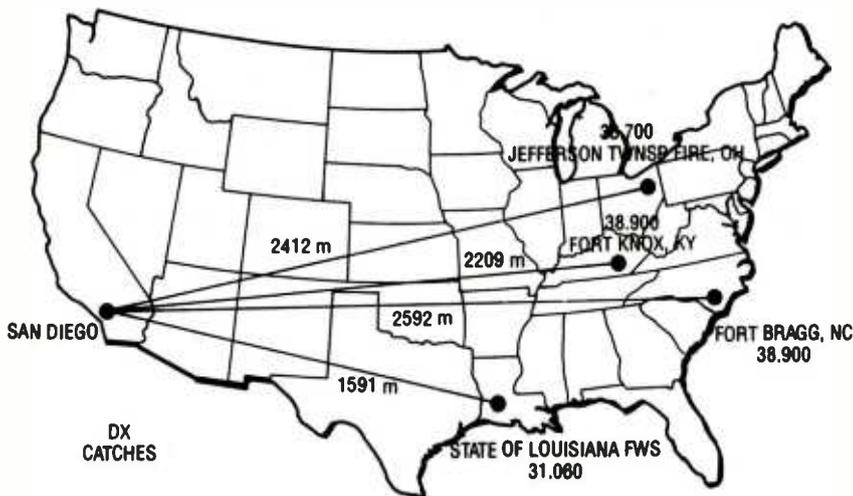

Fig. 1. As you can tell from these catches logged by the author, skip can really help you pull-in transmissions from all over the country.
1. **High-frequency (HF) allocations.** Figure 1 shows the additional frequency allocations made for high-frequency broadcasting. Four conditions were imposed on those allocations:
2. **Satellite sound broadcasting (BSS):** The issues here produced a genuine tug-of-WARC. The conference was divided from the outset on allocation of frequencies. Most Europeans wanted the more economical and propagationally suitable L-Band, with an allocation around 1.5 GHz. However, the U.S. was firmly opposed to that allocation because military aeronautical services are now operating in that band. The U.S. wanted the allocation in the S-band, around 2.3 GHz. Other countries, notably, China, Russia, Japan, India, and Pakistan, wanted the BSS allocation to be around 2.5 GHz. (See Fig. 1)
**3. High-definition television (HDTV).** This service ran into problems similar to those encountered in BSS, and there was no agreement on worldwide allocations. Instead, Europe, Africa, and Asia will use the 21.4- to 22-GHz band, and the Americas will use the 17.3- to 17.8-GHz band. Feeder links will be in the 18.1- to 18.4-GHz band in the Americas, and 24.25- to -25.25-GHz band elsewhere. (See Fig. 1) These bands will become available on April 1, 2007.